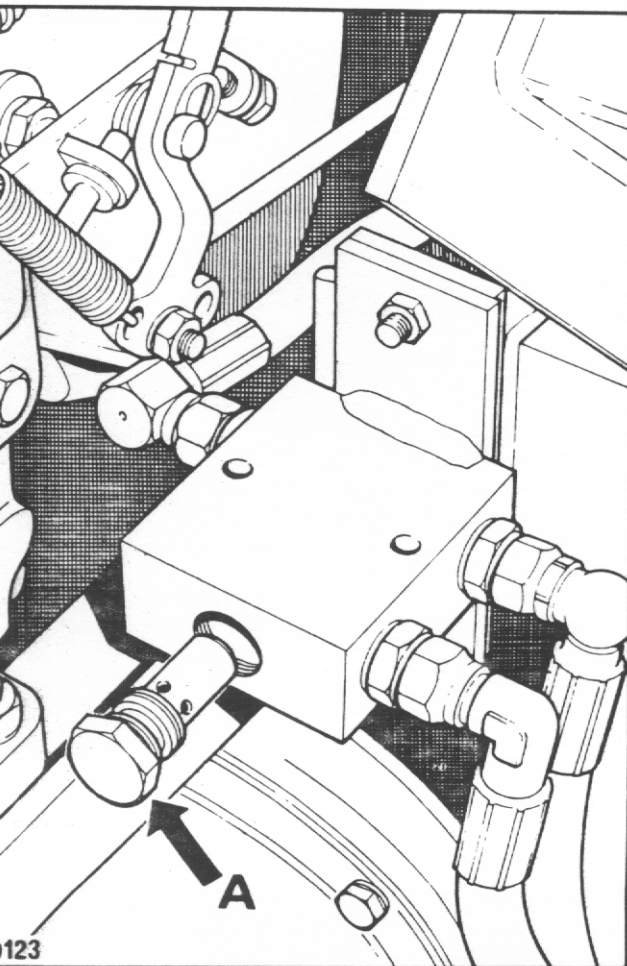
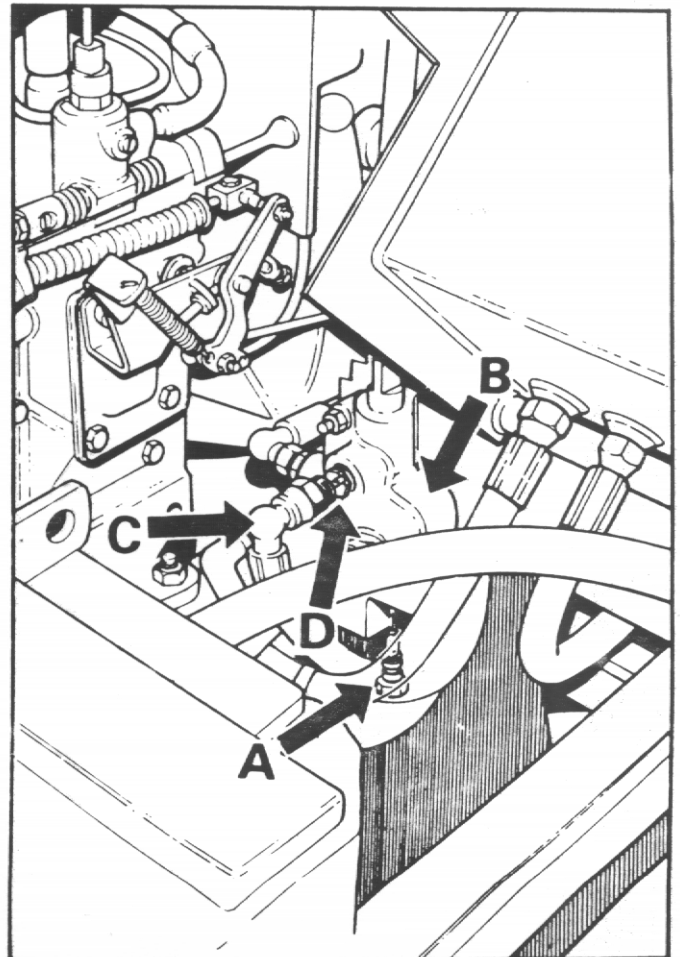

FIG 8
FIG 9
4. Remove relief valve cartridge (A) (hexagon head) from end of Valve Block on Gravity tip machines. (See Fig. 8) and from the bottom of the Control Valve on Hydraulic tip machines (See Fig. 9) and replace with a new one.
5. Remove hose adaptor (C) from control valve (See Fig. 9), remove hexagonal orifice plate (D) and wash in white spirit. Dry using moisture-free compressed air. DO NOT poke wire etc., into the orifice. Re-fit plate and hose adaptor with slot of orifice plate facing outwards.